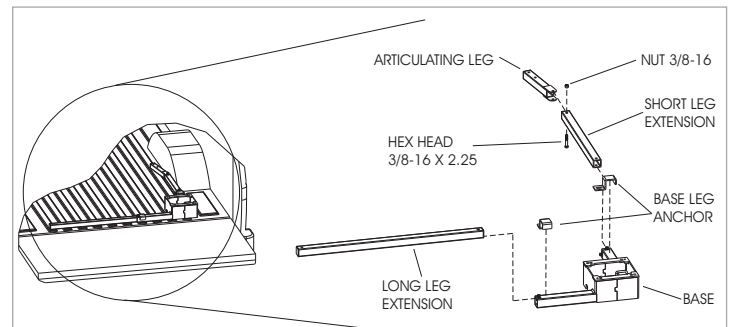

Figure 17-2
- 2. Install the Leg Extensions into Base** and place Anchors (if included) into the Base leg nearest to the Hex Head Bolts; the Long Leg is to run parallel with the bumper. The short leg is to run from rear to front of the vehicle. Attach Articulating Leg (if included) to the short leg. A minimum of 4" of the Leg Extensions are to be within the Base legs. *Tighten by hand, the Hex Head Bolts on the Base to keep the legs from moving. Reposition the Base with legs attached to nearest corner of the vehicle.* [Figure 17-2]